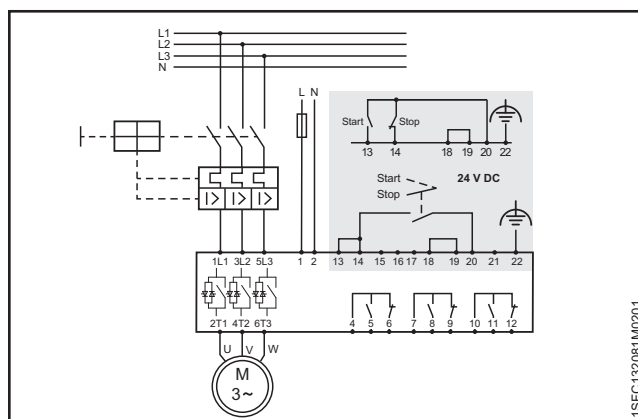

Figure 2.5
- Connect terminals 4, 5, 6, 7, 8, 9, 10, 11 and 12 to use the signal output relays. These are potential-free contacts for maximum 250 V AC, 1.5 A AC-15 and 30 V DC, 5 A DC-12. See **Figure 2.5**.